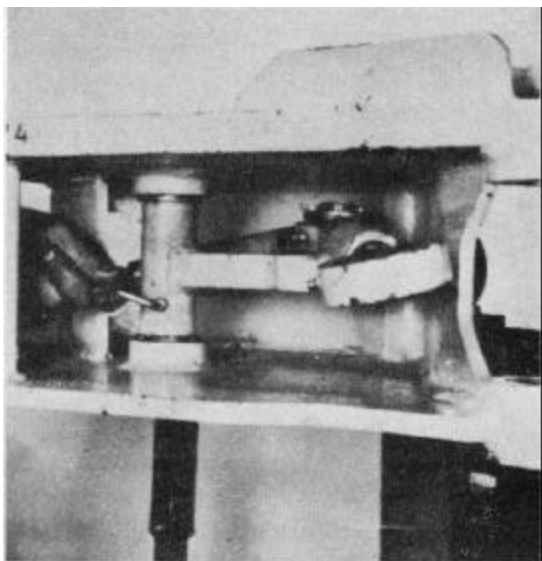

Figure 5-85
1. Loosen the bell crank retaining set screw located at the side of the bell crank tube (Fig. 5-85).